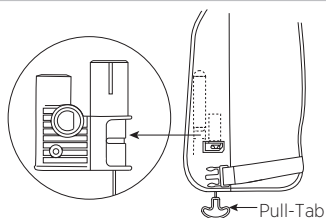

FIGURE 1 MD2020 SERVICE INDICATOR: AUTOMATIC MODE
1. Examine the service indicator through the window panel (Fig. 1). Ensure the service indicator is green. If the service indicator is red, the mechanism has been fired or is incorrectly fitted (See “Re-arming your PFD in Automatic Mode,” page 9, or “Re-arming your PFD in Manual Mode,” page 12).
5. Ensure the service indicator is green and the pull-tab lanyard is hanging on the outside (Fig. 1); secure the Velcro™ strips on both sides of the PFD.
- ☐ Ensure the inflation pull-tab is hanging on the outside (Fig. 1)
3. Examine the service indicator (Fig. 1). If the service indicator is red, the mechanism has been fired or is incorrectly fitted and the inflator requires service (see “Re-arming your PFD in Automatic Mode,” page 9, or “Re-arming your PFD in Manual Mode,” page 12).